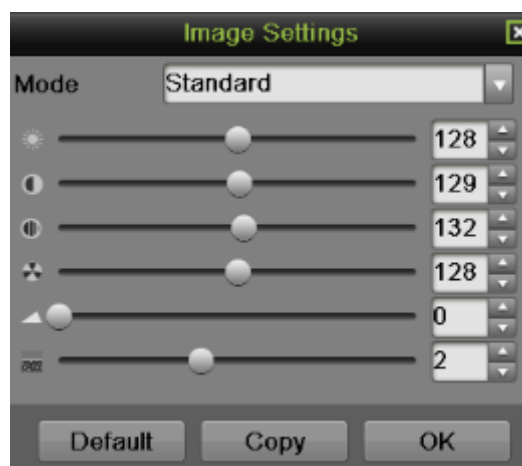
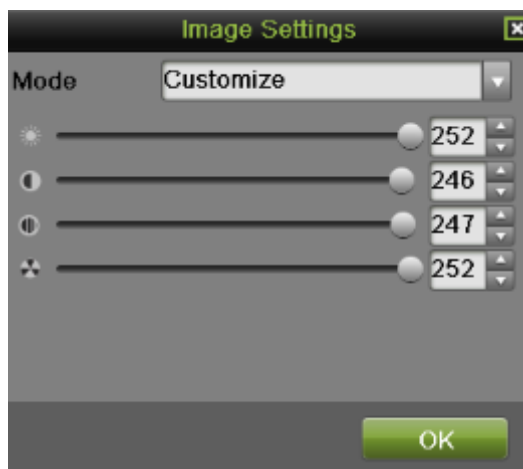

Figure 25 Analog Camera Image Settings Menu
Figure 26 IP camera Image Settings Menu
2. Click the Image Settings icon. This will bring up the Image Settings menu, analog camera is shown in Figure 25, IP camera is shown in Figure 26.